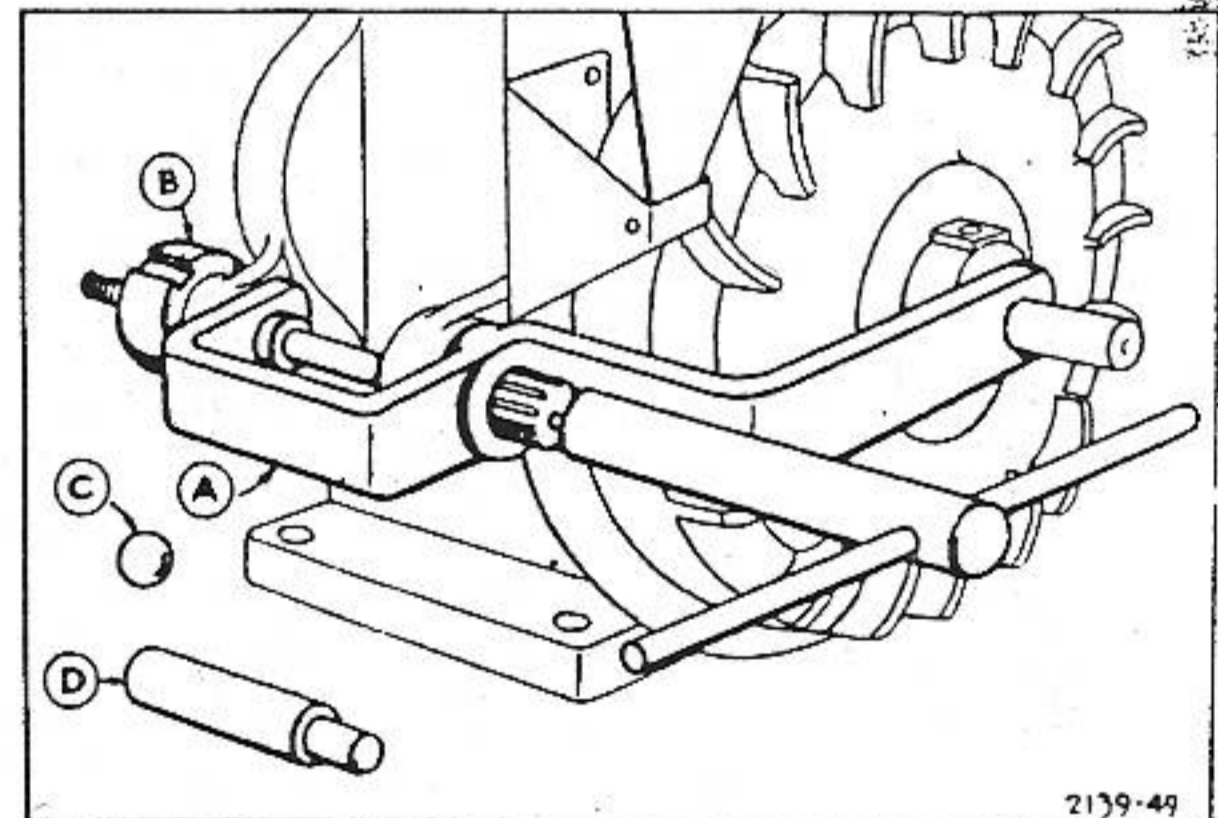

FIG. 197—REPAIRING WORN STARTER SHAFT HOLE
To repair, use reaming fixture No. 60079-T3. Remove starter pedal, blower case and clutch. Slip frame (A) over end of crankshaft and into left starter lug hole. Fig. 197. Ream with the smaller (13/16") dia. shell reamer. Use nut (B) on end of arbor to draw reamer in uniformly. If nut (B) turns, lock it with a suitable pin at slot. Run reamer in far enough to chamfer end of hole to take bushing easier.